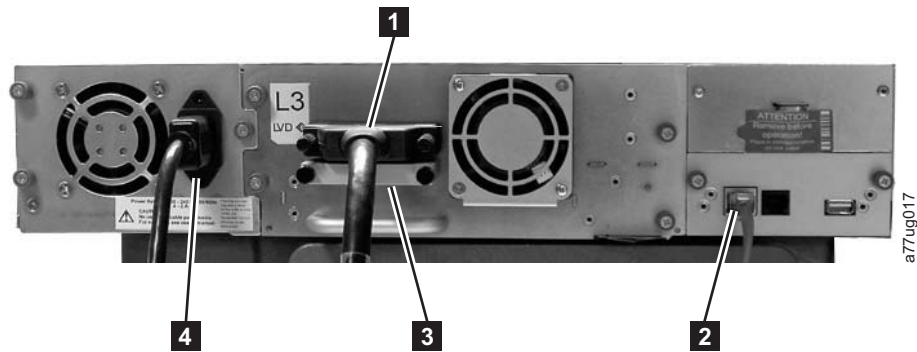
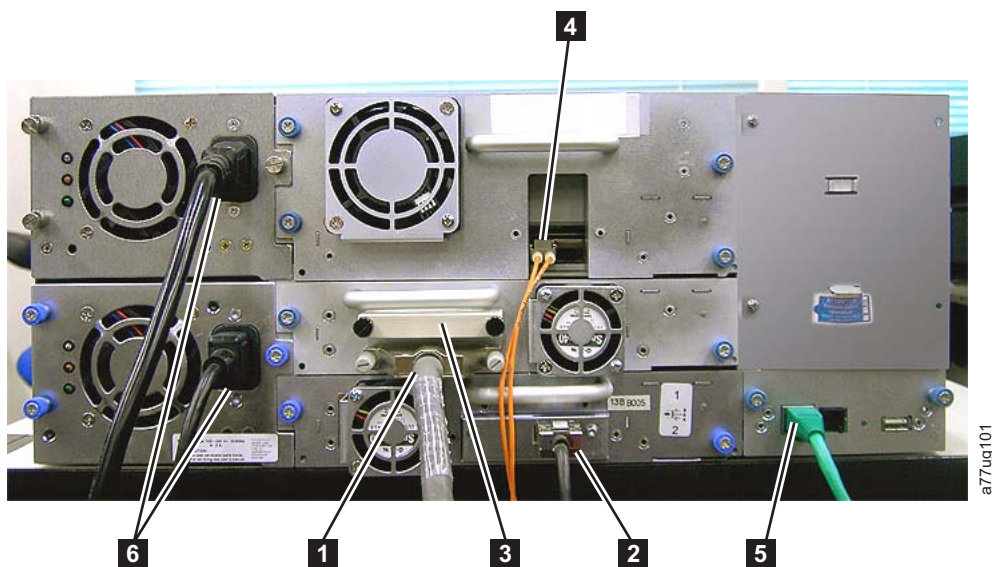
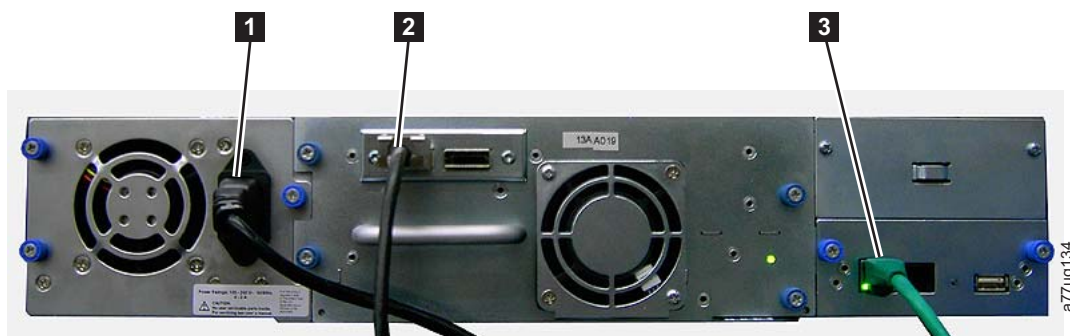

Figure 4-16. Attaching a SCSI host interface cable to the 2U library
Figure 4-17. Attaching host interface cables to the 4U library.
Figure 4-18. Attaching a SAS interface cable to the 2U library
2. For a SCSI library, attach one end of the host interface cable to one of the connectors on the back panel of the library (see **1** in Figure 4-16). For a Fibre Channel library, attach one end of the host interface cable to the connector on the back panel of the library (see **5** in Figure 4-17 on page 4-16). For a Serial Attached SCSI (SAS) connected library, attach the host end of the SAS cable to the SAS HBA (see **2** in Figure 4-18 on page 4-16). Full high drives will have dual SAS connectors. Half high drives will have one SAS connector. Unused SAS connectors do not need to be terminated.
- For a SCSI library, connect the host interface cable to the connector on the SCSI host bus adapter or to the connector on the previous device on the SCSI bus. Attach the terminator (**3** in Figure 4-16 on page 4-15) to the remaining SCSI connector on the back panel of the library, if the library is the last or only device on the SCSI bus. Otherwise, attach one end of a SCSI cable to the remaining port and the other end to the next device on the SCSI bus. Make sure that the last device on the SCSI bus is properly terminated.
4. Plug the network ethernet cable **2** in Figure 4-16 on page 4-15, Figure 4-17 on page 4-16), or **3** in Figure 4-18 on page 4-16 into the ethernet port on the back panel of the library. If the ethernet connection is directly attached to a server or laptop, a crossover ethernet cable may be required.